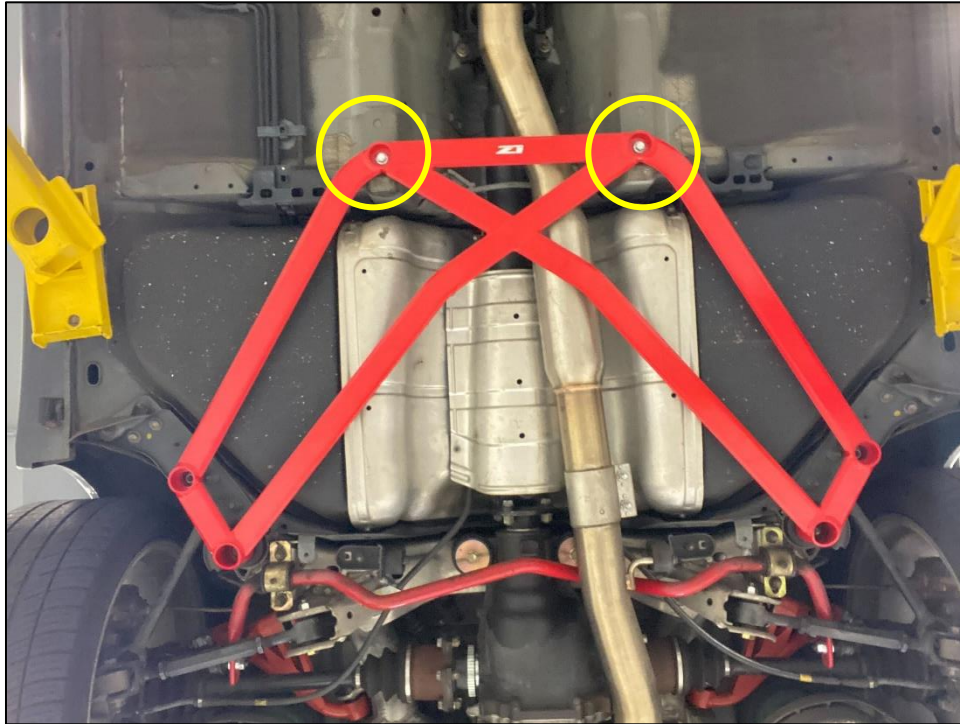

Figure 3
5. Position the W-Brace as shown. Loosely secure the front of the W-Brace to the factory threaded holes with the supplied M10 x 1.25 Bolts. Do not tighten the Bolts all of the way. *Figure 3.*